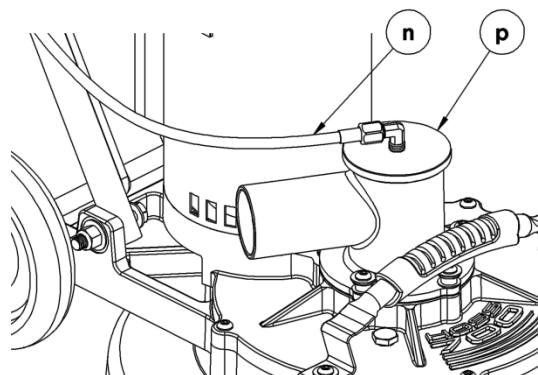

Figure 6.
5. Attach the Solution Line (Figure 6.)